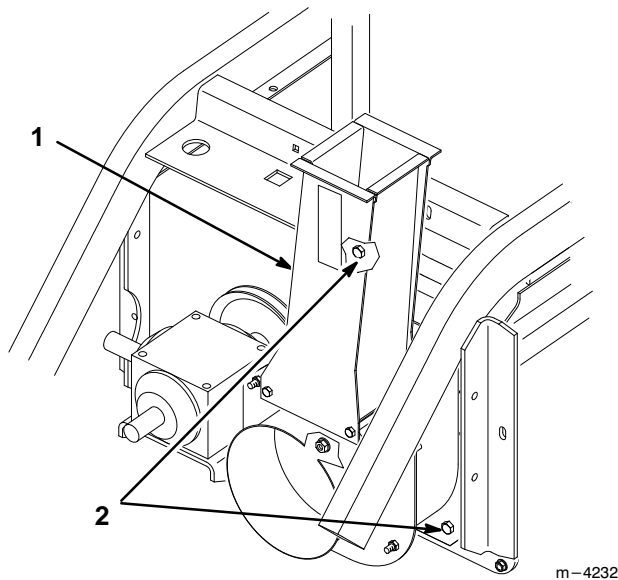

Figure 10
4. Loosen bolts that hold blower to frame (Fig. 10).